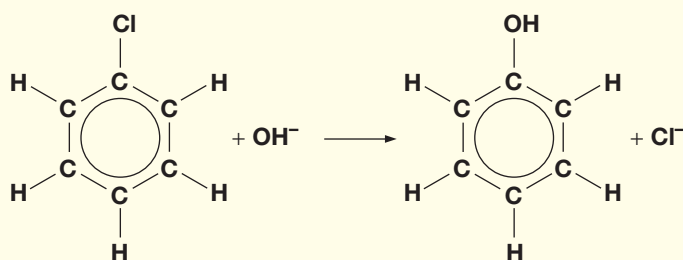

Figure 1.31 ◀
- 6 In the USA, some phenol is manufactured by refluxing chlorobenzene with concentrated sodium hydroxide solution at 400 °C and a pressure of 150 atmospheres (Figure 1.31).